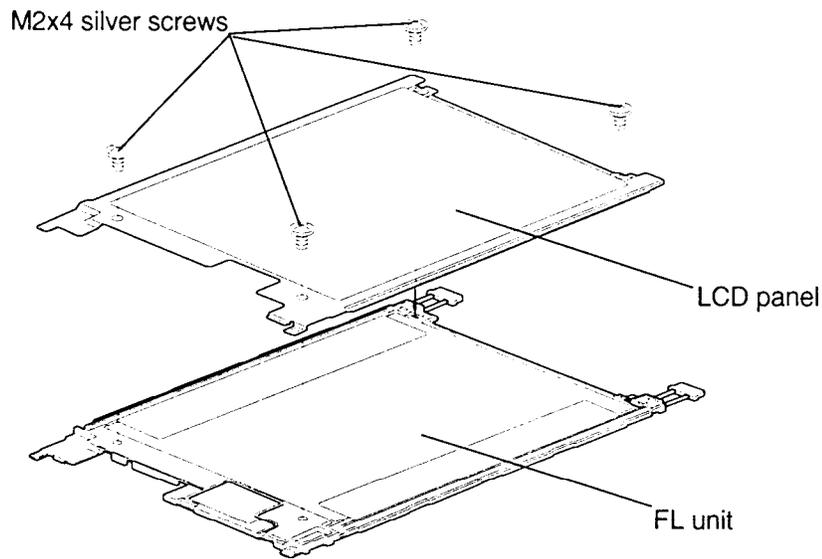

Figure 4-32 Removing the FL screws
4. Remove the **four M2x4 silver screws** securing the **FL unit** and **LCD panel** to the back frame (figure 4-32).
2. Secure the **LCD panel** with **four M2x4 screws** (figure 4-32).